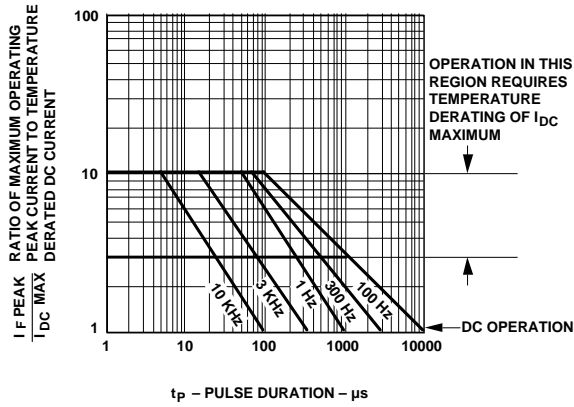

Figure 5. Maximum Tolerable Peak Current vs. Pulse Duration – HER, Orange.
1. See Figure 5 to establish pulsed conditions.